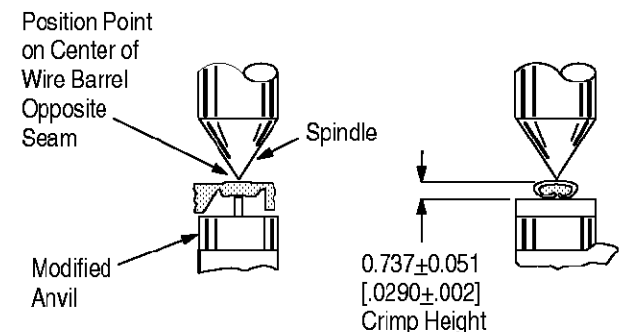

Figure 5
This inspection requires the use of a micrometer with a modified anvil as shown in Figure 5. AMP recommends the modified micrometer (Crimp Height Comparator RS-1019-5L) which can be purchased from:
3. Using a crimp height comparator, measure wire barrel crimp height as shown in Figure 5. If the crimp height conforms to that shown, the tool is considered dimensionally correct. If not, refer to Section 6 for information on obtaining evaluation and repair.